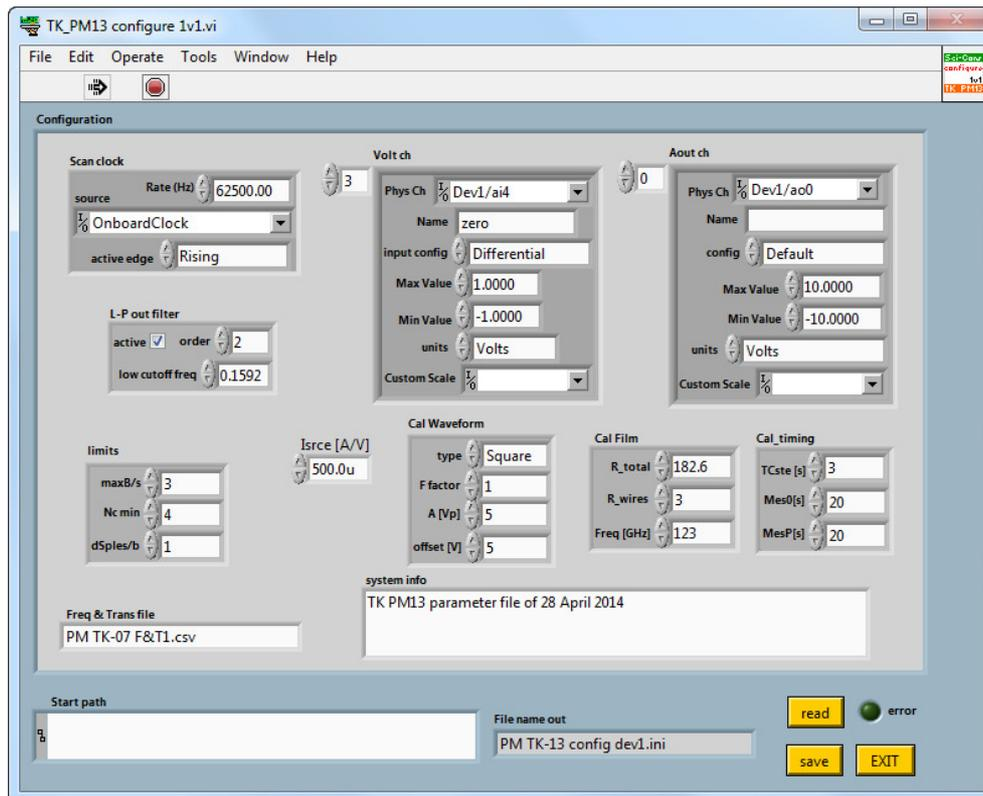

Figure 2.5: Support software configuration, with the film resistance option circled. The name of the window transmission data file is indicated by the arrow.
4. Click the `Initialize` button. Doing this with no file name specified causes the configuration window to pop up as shown in Figure 2.5. The configuration file includes pre-calculated values of resistances, voltages and timings for the system.
5. Adjust the value of film resistance, labelled R_{total} (indicated by a red circle in Figure 2.5), to match the measured value, R_{film} . If measurements will typically be made at one signal frequency, this can be saved in the configuration file (as `Freq [GHz]`) to avoid having to re-enter it in the main window whenever the software is started.
6. The window transmission as a function of frequency is read from a data file stored in the 'para' directory within the support software installation directory (further information and updates can be found on the THz Power Meter page on the terahertz.co.uk web site). The name of the file can be specified in the box shown by the arrow in Figure 2.5. The format of the file is tab-separated with DOS line termination (CRLF), where frequencies in GHz are given in the first column and transmission values in the second. The software interpolates between the given data points.